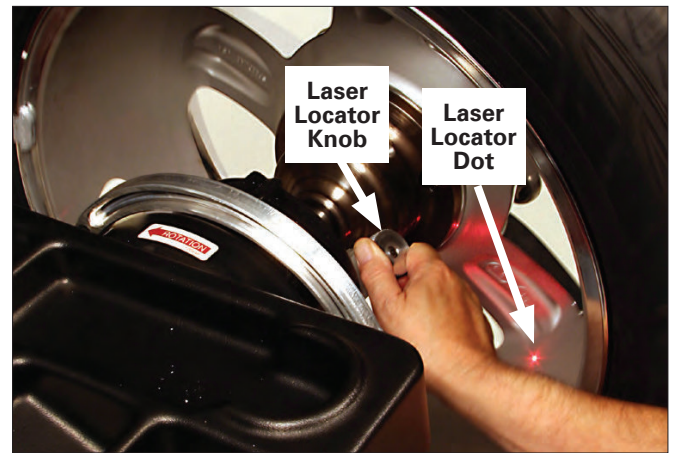
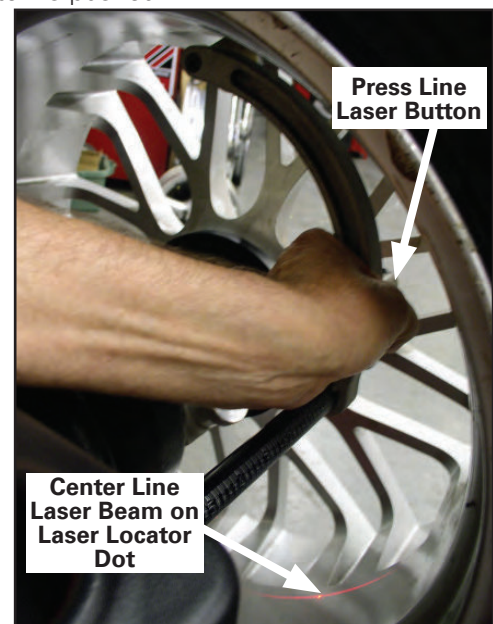

Figure 10 - Positioning Laser Dot At T2 Tape Hidden Weight Location (A2)
Figure 11 - Positioning Line Laser Beam At T2 Tape Hidden Weight Location (A2)
If the T2 Tape (hidden Tape-A-Weight®) location is selected, use the laser locator to point to the hidden weight location (figures 10 & 9B). Rotate laser locator knob to position the laser dot outboard at the desired T2 Tape (hidden Tape-A-Weight®) location.
If the T2 Tape (hidden Tape-A-Weight®) location is selected, use the line laser to align the offset arm with the laser locator dot (figures 10 & 9B); entering A2 & D2 measurements automatically. Grasp arm at the line laser and pull out and up to the wheel flange (figure 8B). Hold arm still at the clip-on weight location and wait for BEEP. Then, before returning arm to home position, press button on line laser to activate the line laser beam. Move arm to inner area of wheel and align line laser beam with laser locator dot (figure 10). Hold arm still, up against the rim, in the same plane as the T2 Tape (hidden Tape-A-Weight®) location (figure 9A & 9B) and wait for BEEP. Refer to figure 11.
3. Rotate the laser locator knob to position the laser locator dot at the desired weight location. See figures 10 & 9B.